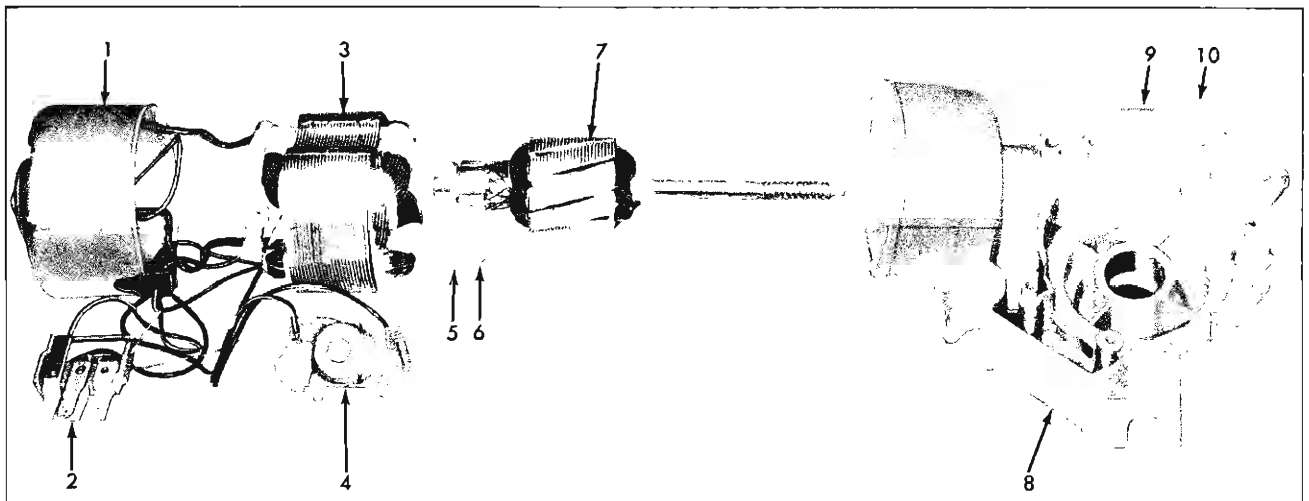

Fig. 61—Wiper Motor Exploded View
#### Disassembly (fig. 61)
1. Assemble rubber thrust disc, steel thrust plate and felt washer in order indicated (fig. 61) into case.